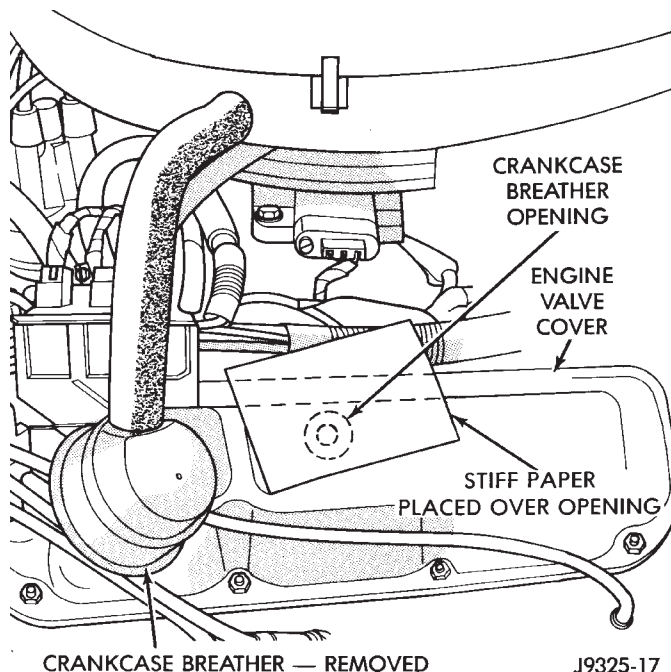

Fig. 16 Check Vacuum at Crankcase Breather Opening—Typical
(2) Install the PCV valve. Remove the crankcase breather/filter. Hold a piece of stiff paper, such as a parts tag, loosely over the opening of crankcase breather/filter at the cylinder head (valve) cover (Fig. 16).
(3) The paper should be drawn against the opening in the cylinder head (valve) cover with noticeable